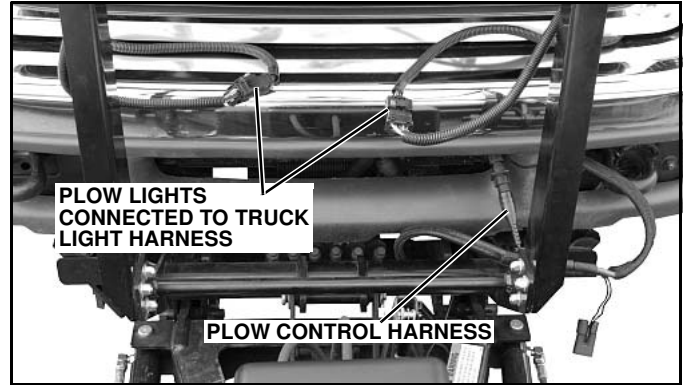

Figure 1-30
8. Plug plow light connectors into mating connectors on truck light harness. (See Figure 1-30)